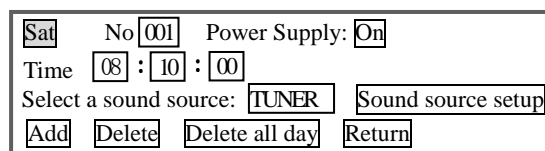

Fig. 5: Timing Setup Interface
- ① Press the "◀" or "▶" key to call downward or upward saved channels;
- ② Press the "▲" or "▼" key to conduct fine tuning operation. Press and hold the key for 2 seconds to automatically search radio channels, which will be automatically stopped after a channel is searched out.
- ③ Press the "AM/FM" key to switch between the AM and FM bands.
- ④ To store a radio station tuned, press the "Save" key, and the current radio channel storage number will start flashing. Press the "◀" or "▶" key to move the cursor downwards or upwards to select the storage number of channel to be stored, press the "Save" key, and the number is successfully saved when the storage number stops flashing.
- ⑤ Press the "Play/Pause" key to mute the radio, and press it again to de-mute.
- ⑥ Press the "Main" Interface key or any "Zone" key to return to the main interface.
5. Select the "Timing Setup" option in the "Operation Setup" interface, and press the "Ok" key to access the "Timing Setup" interface as shown in Fig. 5.